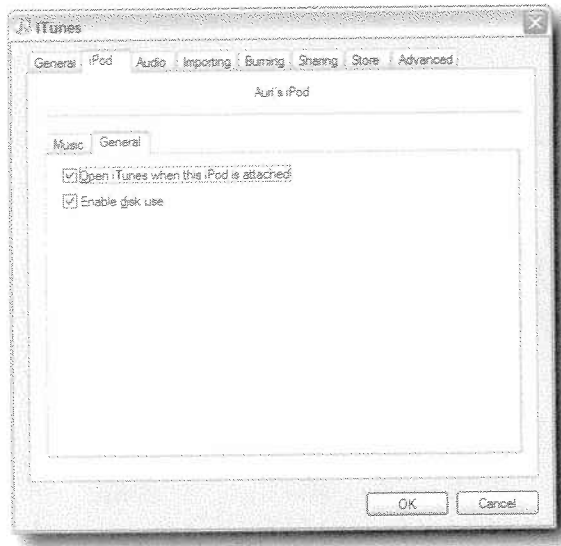

FIGURE 18-8: "Enable disk use" option for your iPod in iTunes.
5. Check the box next to "Enable disk use" as shown in Figure 18-8.